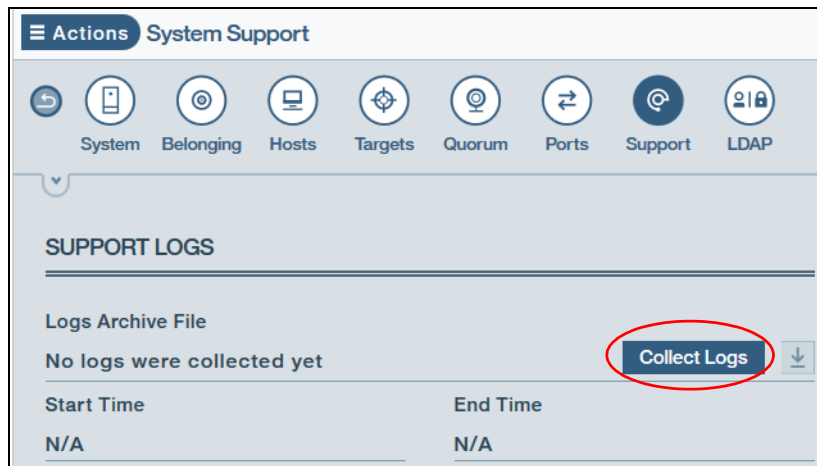

Figure 7-3 Collect Logs option
6. From the Support Logs section, click **Collect Logs** to download the support logs. See Figure 7-3.